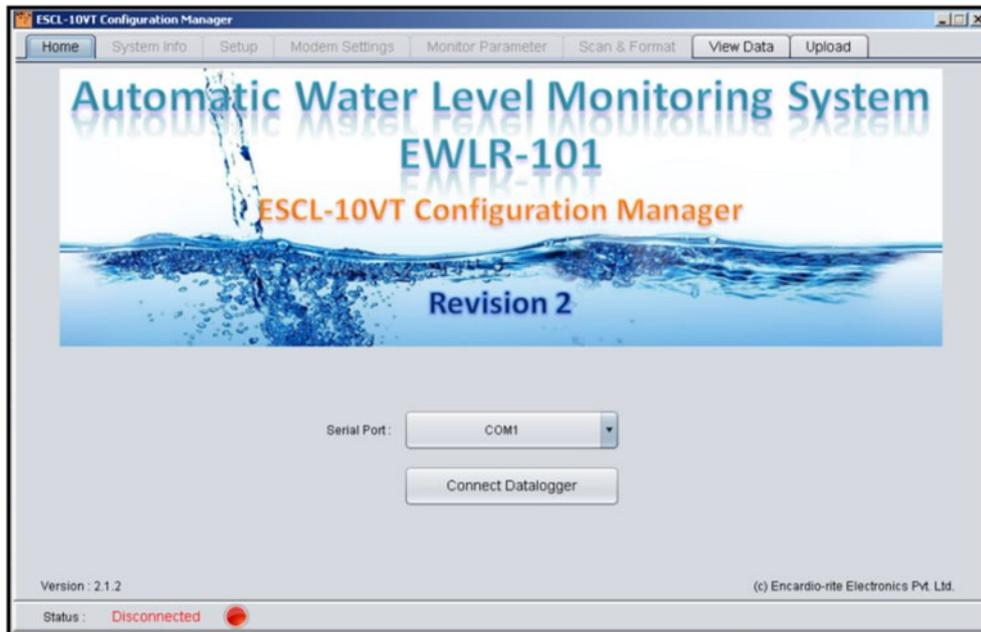

Figure 8-5: EWLR-101 Configuration Manager - Home
- Launch the Configuration Manager software by choosing it from the program list in the Start Menu. The software window as per figure 8-5 will get launched; the PC is ready for connecting to datalogger